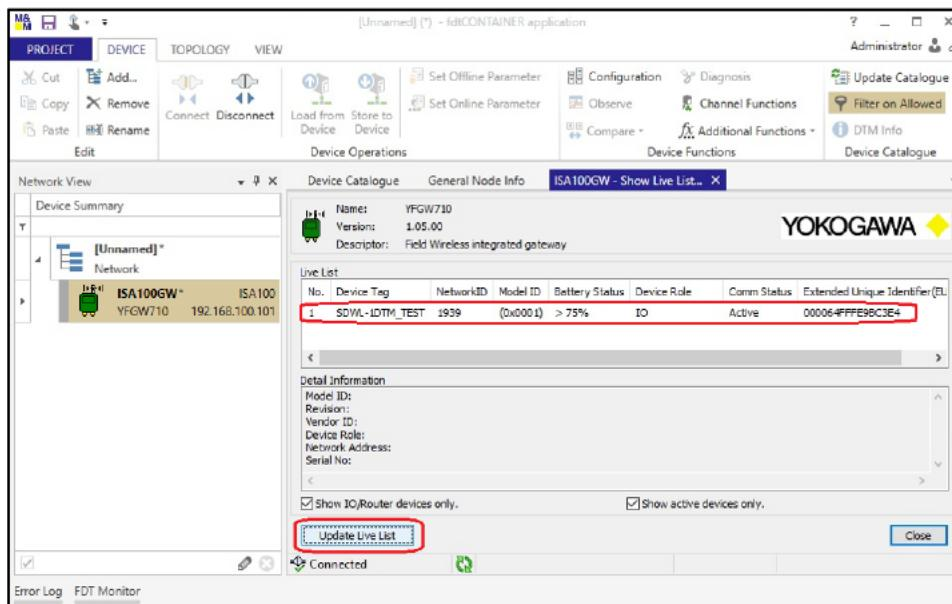

Figure 5-43 Updating live list
- ⑤ The live list is displayed. Click “Update Live List” to update the live list. The SDWL-1 will be displayed on the list if it is correctly connected to the system. (Figure 5-43)